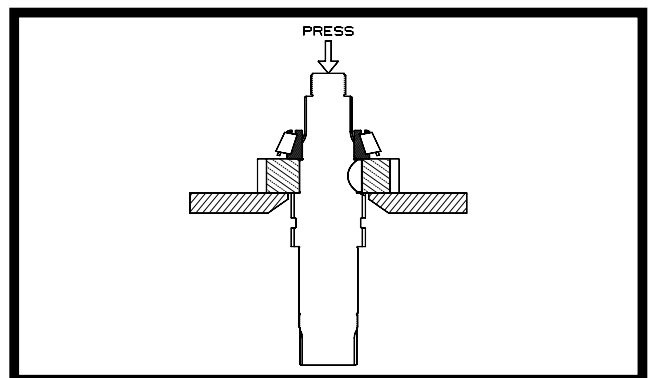

Figure 4.14
4. Invert the shaft assembly in the press so that the remaining gear is supported. See Figure 4.14. Remove the bearing cone assembly and the gear. Remove the woodruff key if necessary.